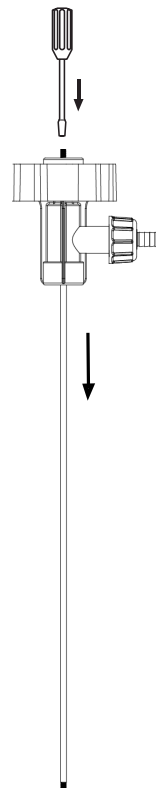

Figure 8
9. Pull drive shaft straight down removing it from the discharge housing or connection flange while inserting a screwdriver through bearing unit (P/N: 1038) (see Figure 8).